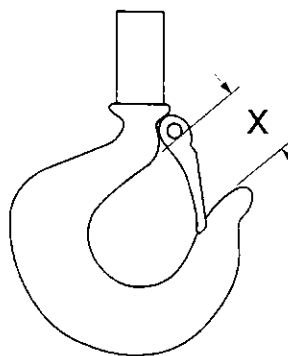

Figure 10 - Checking hook opening
2. Check hooks for deformation, cracks or chemical damage. Hooks having more than 7/8" throat opening should be replaced (See Figure 10).